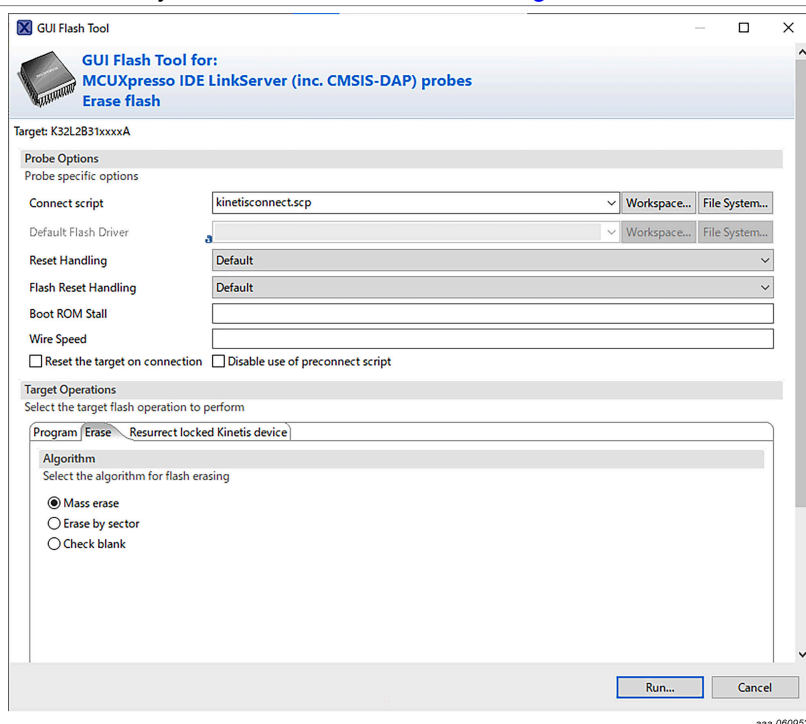

Figure 18. Mass erase the internal flash by a GUI Flash Tool
2. Mass erase the internal flash by GUI Flash Tool as shown in Figure 18.